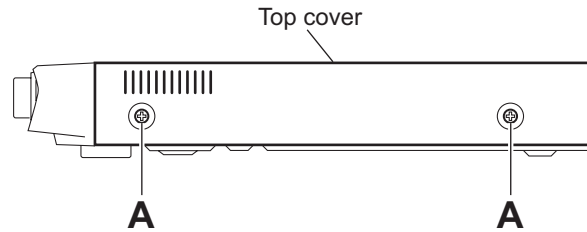

Fig.1
(See Figs.1 and 2)
- (1) From the both sides of the main body, remove the four screws **A** attaching the top cover. (See Fig.1)